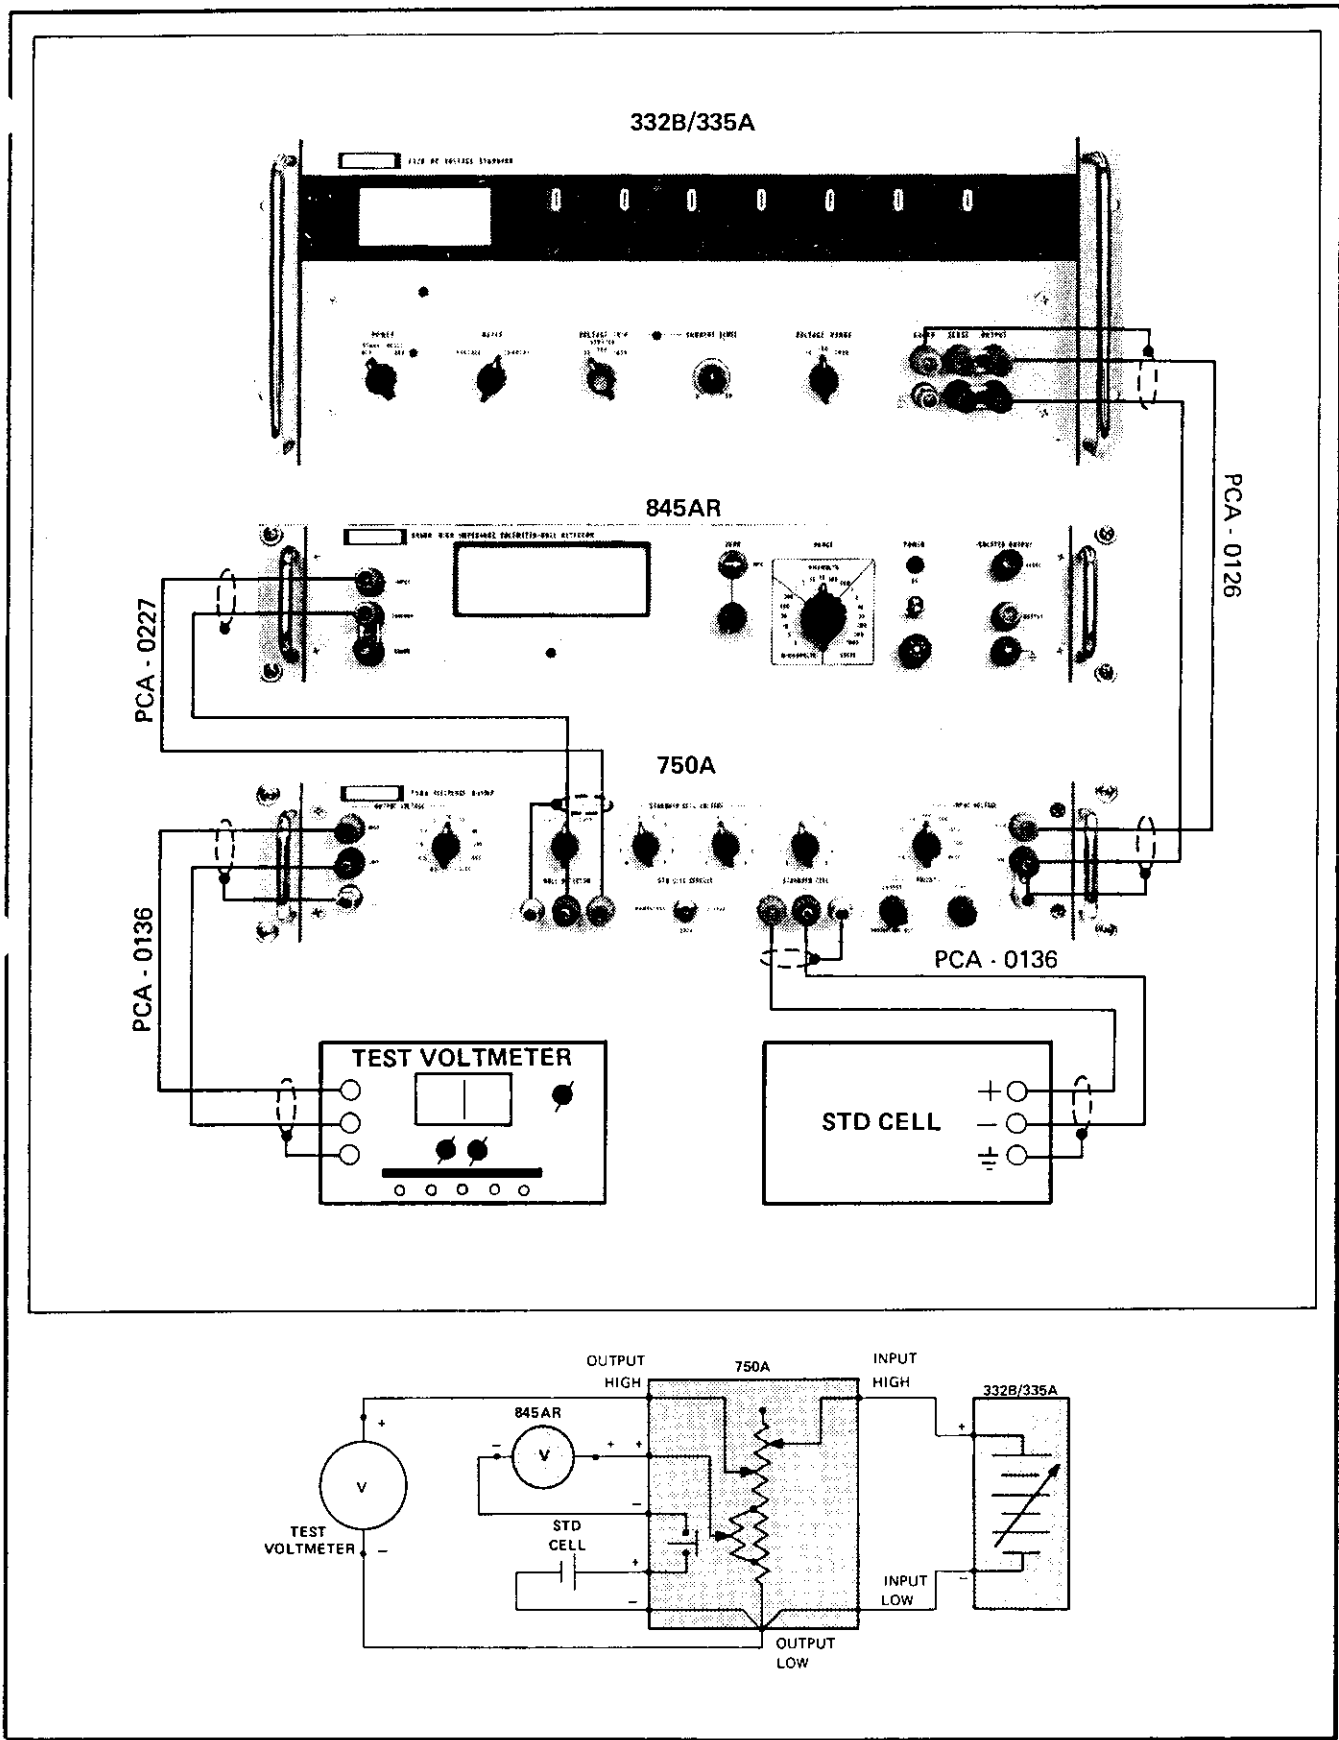

Figure 2-7. CONNECTIONS FOR VOLTMETER CALIBRATION AT 750A OUTPUT SETTINGS, SYSTEMS 7100B, 7101B AND 7105A.
- c. Make the equipment connections illustrated in Figure 2-7 or 2-8.